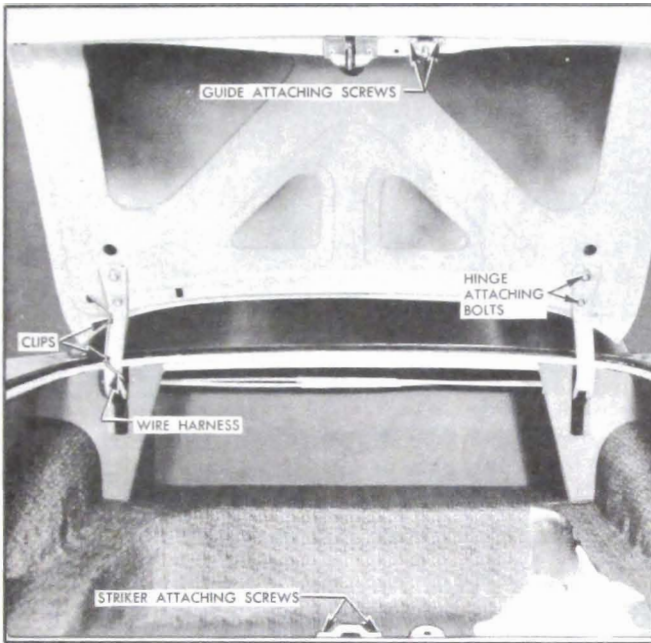

Figure 13-244—Rear Compartment
4. Remove two bolts shown in figure 13-244 securing lid to each hinge strap and with aid of helper remove rear compartment lid.
4. To adjust rear compartment lid guide, loosen attaching screws and adjust guide as required; then tighten screws. (See Fig. 13-244).